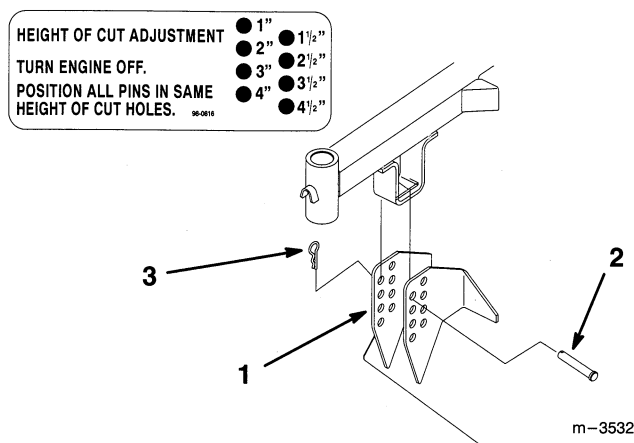

Figure 16
1. To adjust, remove hairpin cotter and clevis pin from mower hanger bracket (Fig. 16).
2. Select hole in mower hanger bracket corresponding to the height-of-cut desired. Lift on side and front handles to align holes and insert clevis pin (Fig. 16).
3. Secure clevis pin with hairpin cotter (Fig. 16).